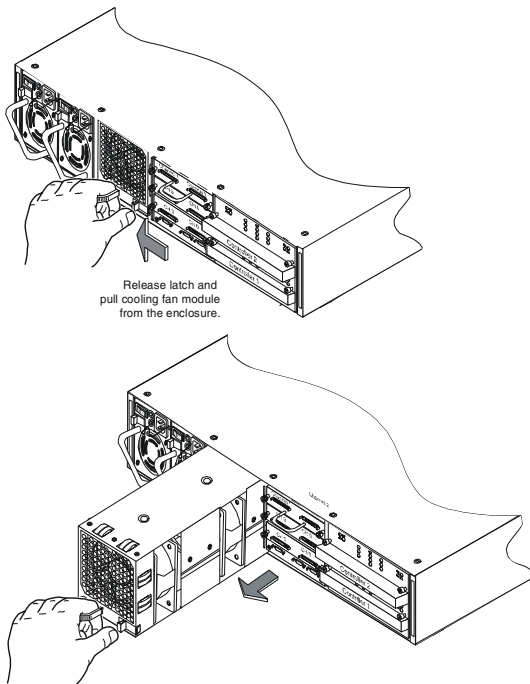

Figure 5-13 Removing the Cooling Fan Module
- 2 Use your thumb to squeeze the release latch, then pull the module from the storage subsystem, as shown in Figure 5-13.